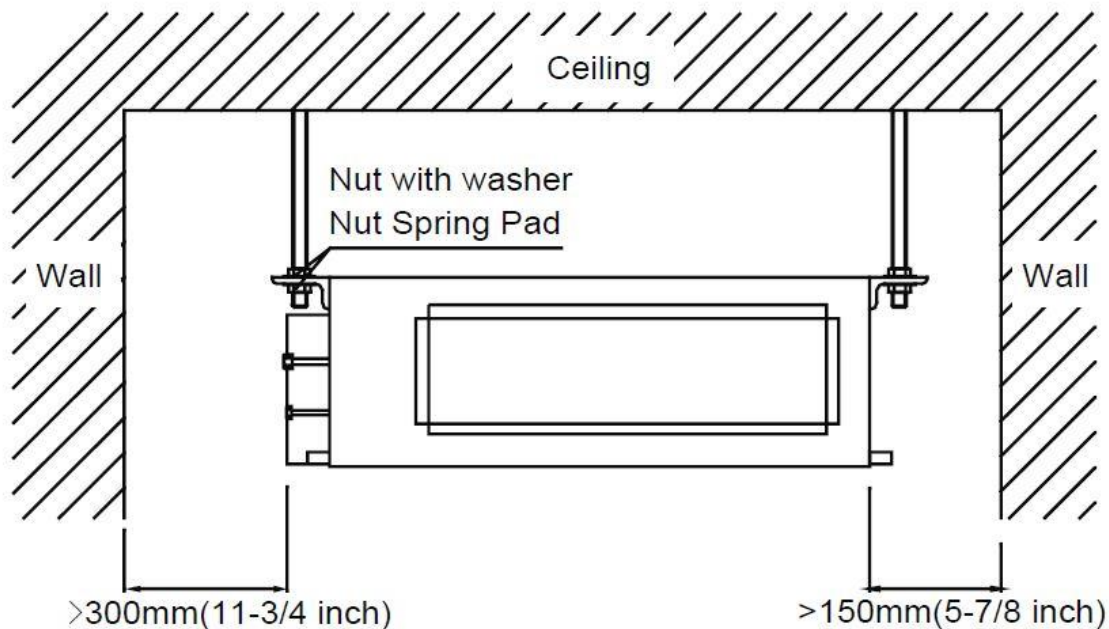

Fig1
9. There should be adequate space around the unit for proper maintenance and service. Install the indoor unit according to the dimension described below in (Fig1).